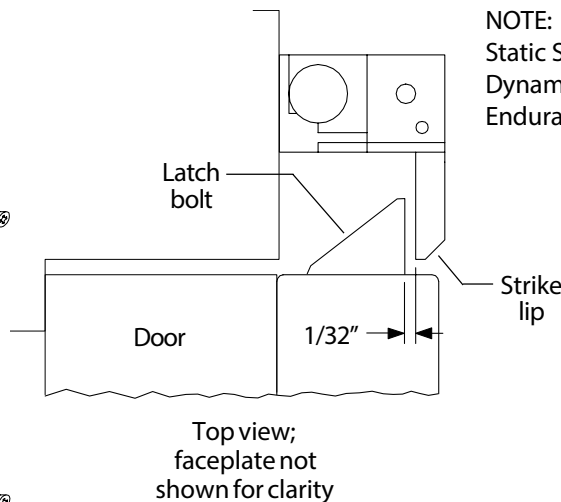

Figure 3
5. Install strike with four #10-24 screws. Make sure clearance between latch bolt and strike lip is 1/32" (Figure 3). If not, shim night latch as necessary.